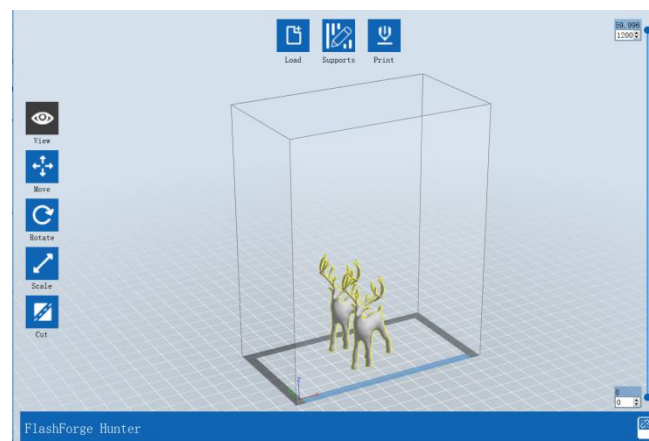

Figure 24 Centered Model
- Centre Model:After selecting [Center Model] placement rule, the loaded model will be automatically placed according to the center model, as shown in Figure 24.